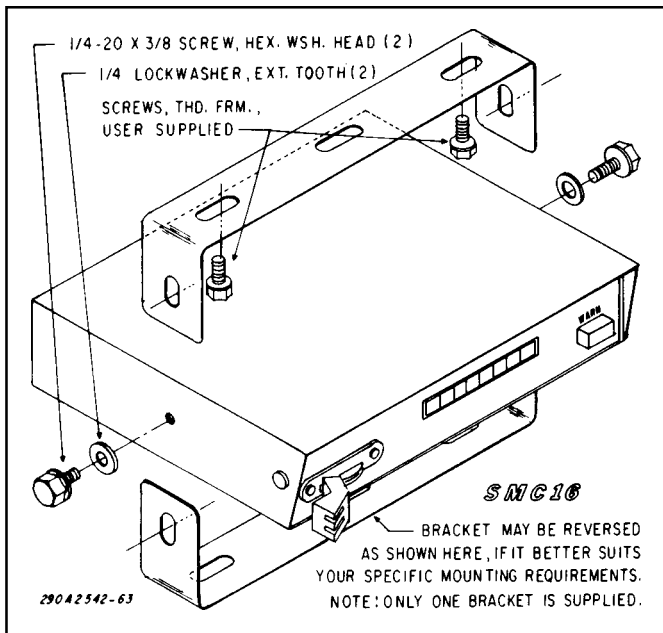

Figure 1.
See figure 1. The supplied mounting bracket allows the control unit to be mounted in a variety of positions. To install the control unit, proceed as follows:
4. Secure the mounting bracket to the control unit with the 1/4-20 hex head, thread forming screws and 1/4" external tooth lock washers (see figure 1).